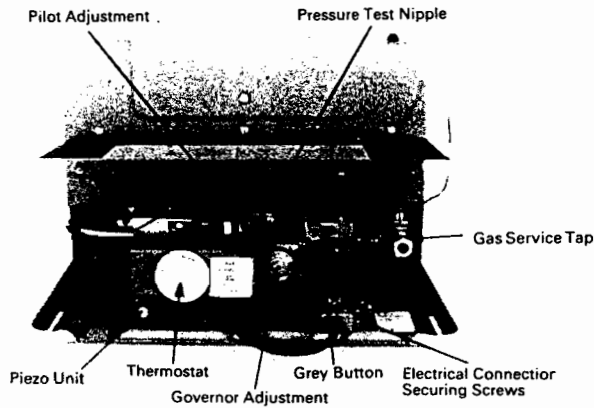

Fig. 15. Boiler Controls
18. Turn the thermostat to the "OFF" position (Fig. 15).
23. Check that the correct pressure corresponding to the range rated output is adequate for the installation (see data label). If necessary remove the cover screw and adjust the appliance governor (Fig. 15). (Turn the screw clockwise to increase pressure) ensuring that the position of the input indicator arrow on the data label is correctly set.